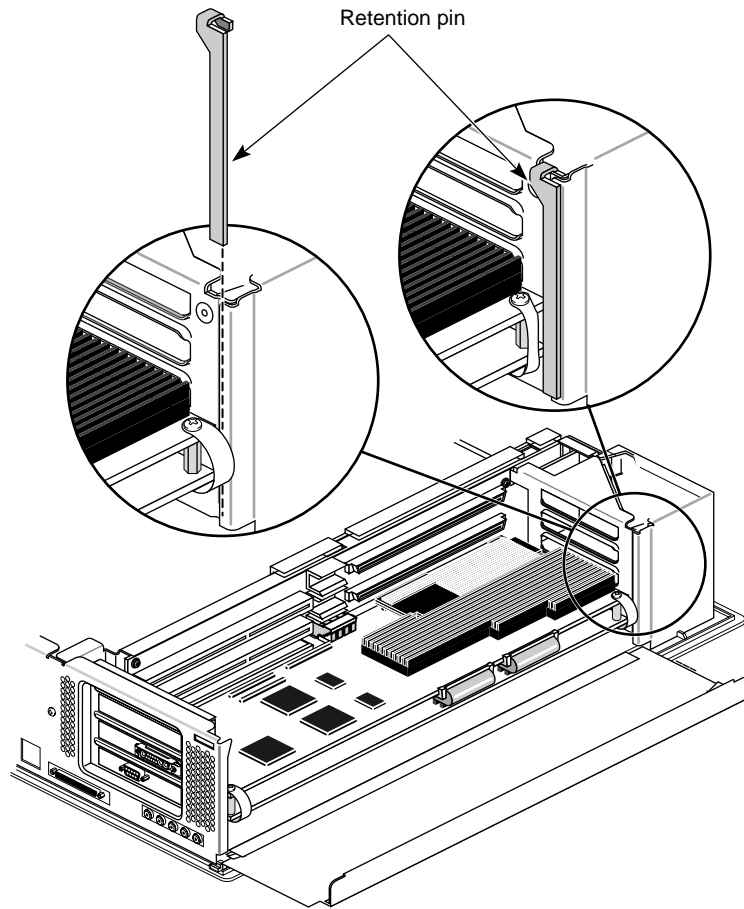

Figure 5-65 Hanging the Retention Pin
6. Hang the retention pin so that it sits in front of the board set. The retention pin prevents the board set from moving away from the connectors. See Figure 5-65.